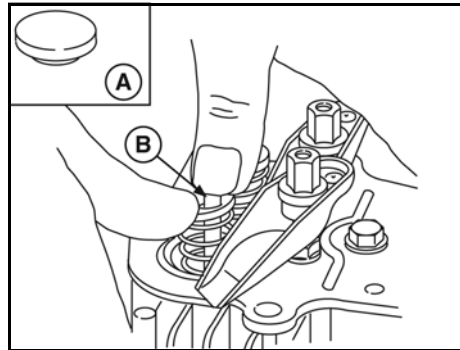

Figure 22
3. Using thumbs, press down on each valve spring retainer and disengage retainer (A, Figure 22) from valve stem (B). Remove retainers, springs, valves, and intake valve stem seal/washer, if equipped.